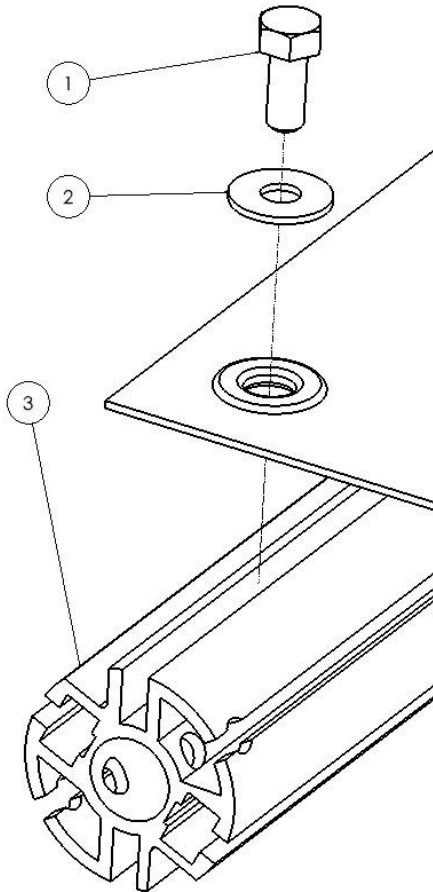

Figure D.4
After attaching the axle to the motor, center the tarp on the axle. Using five, 5/16" x 3/4" hex bolts (1) and washers (2), connect the tarp directly to the heavy duty axle (3) as shown. (Figure D.4)